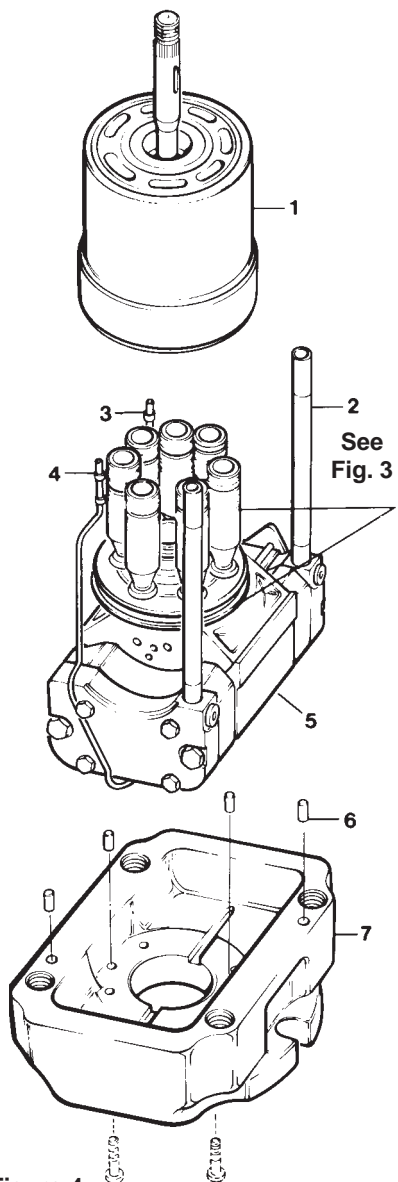

Figure 4
See figure 4. Insert tube line assemblies (3 and 4) in the holes provided in cradle.
Note: Tube assemblies (3 & 4, fig. 4) must be a snug fit into holes in cradle. Expand end of tubes with a pointed tool to assure fit.
PARTS LIST FOR FIGURE 4
Install gasket (3) over the two dowel pins (item 6 on Fig. 4) in the mounting flange.
Position the Housing Assembly (4) over the Barrel and Auxiliary Shaft Assembly and carefully guide the pressure tubes and tube lines (items 2, 3 and 4 on Fig. 4) through the Housing Assembly (4).
See Fig. 4
Slide the port block assembly and port plate over the end of the auxiliary shaft. Be certain that tubes 2, 3 and 4 shown on Fig. 4 are engaged and that the port plate (4) is still on the pins (3).